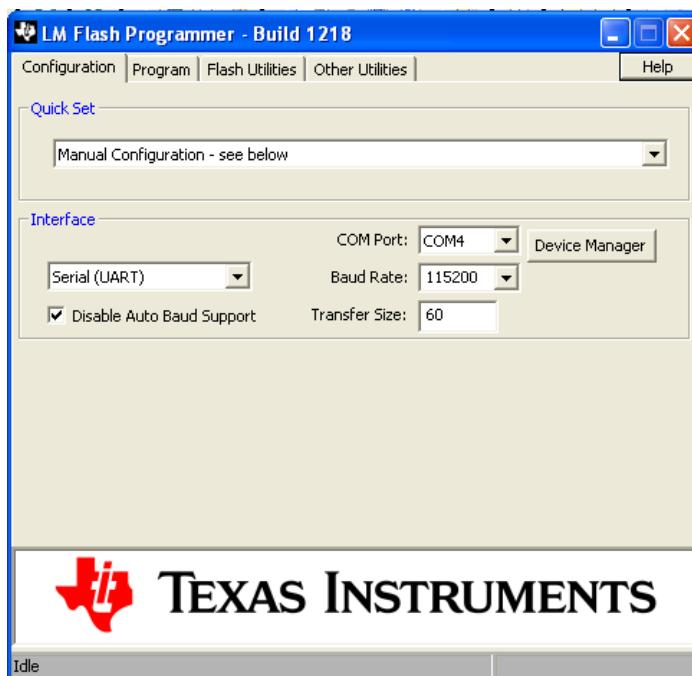

Figure 14.24 LM Flash Programmer (Configuration Tab)
- After clicking on Run, a window similar to that shown in figure 14.24 should display on the screen. This is the LM Flash Programmer.